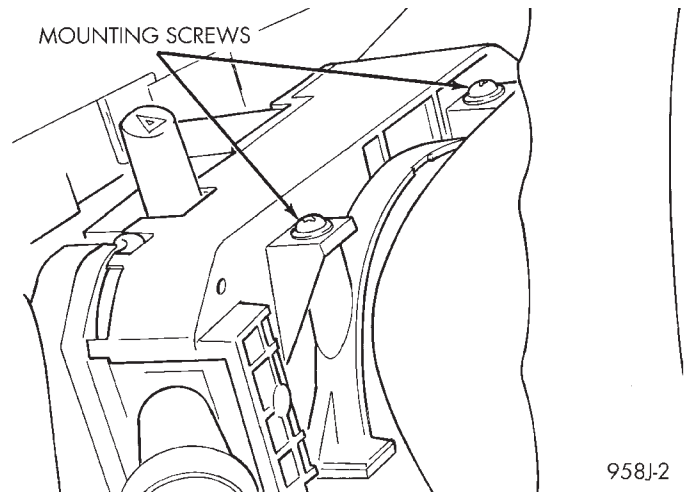

Fig. 4 Multi-Function Switch
- (1) Disconnect battery negative cable.
- (2) Remove the upper steering column cover. Refer to Steering Column Cover Removal and Installation in this section.
- (3) Remove multi-function switch mounting screws (Fig. 4).
- (4) Disconnect wire connectors. Lift the switch straight up to remove.